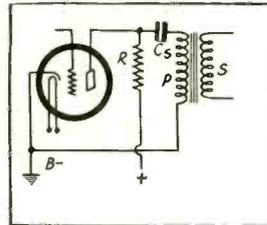
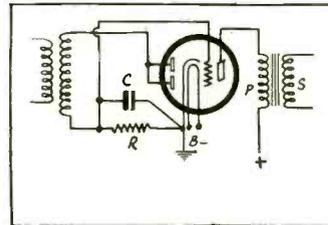
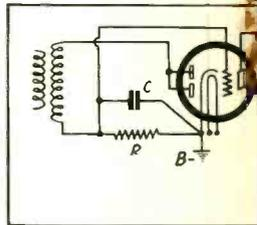

FIG. 1
FIG. 2
FIG. 3
**Top Row**—Fig. 1 shows filtered output, where R is the plate load resistor P and S the audio transformer. Fig. 2 reveals transformer primary directly triode, and Fig. 3 with filtered input to primary, so-called parallel feed. rectified voltage, where M is the meter proper and R is the voltage-meter. As at least 0.5 meg. is required, M would have to be a 0-0.5 mill sensitive instrument. R is the diode load resistor and C is the